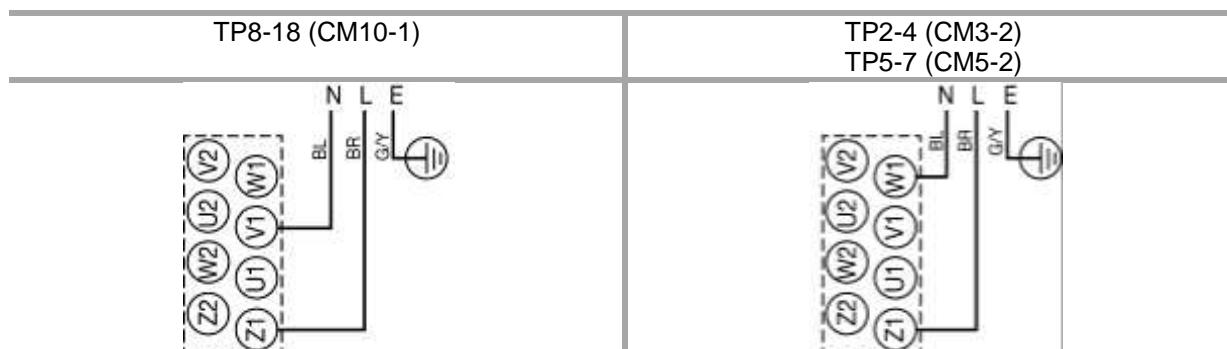

Figure 7
12. If removed, re-install pump and GPO assemblies, refer to Fig 7 for pump wiring details